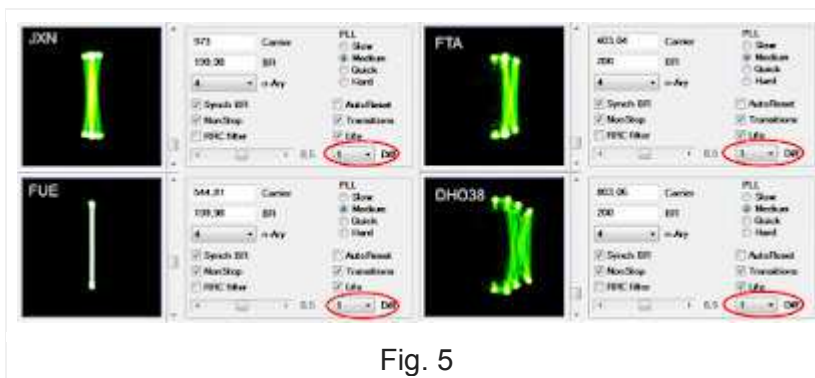

Fig. 5
However (G)MSK doesn't seem to be the sole modulation used: using Diff=1 in the phase-plane it turns out that QPSK-like modulations are used, as in case of FTA and DHO38 (Fig. 5)